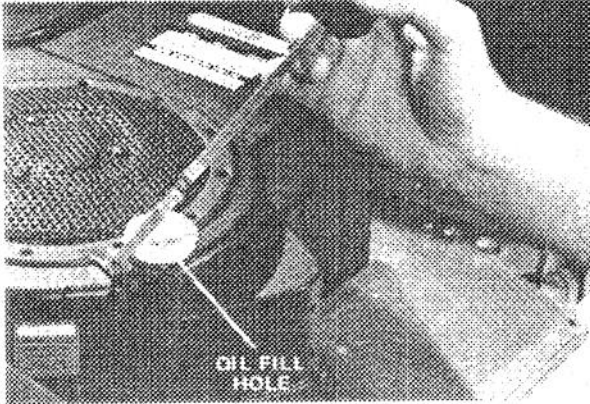

Figure 8
2. Unscrew and remove the dipstick from the oil fill tube (Fig. 8).